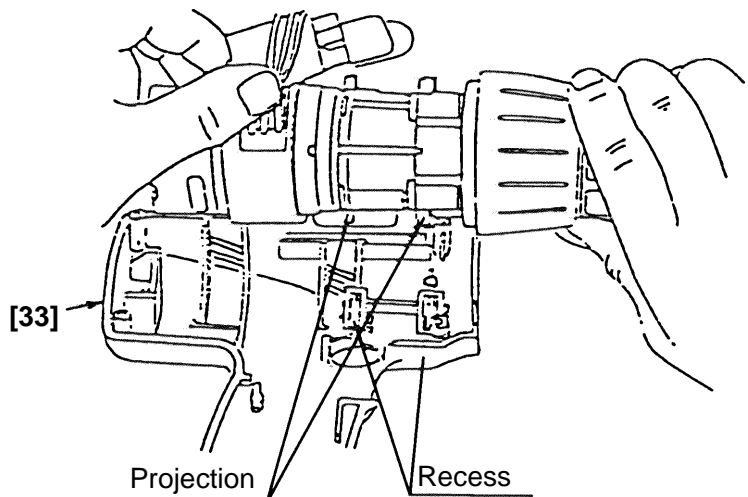

Fig. 14
(b) Install the assembly reassembled in step (3) into the Housing (A) [33]. Note that the projections on the Front Case [11] and the Motor Spacer [26] are engaged in the recess in the Housing (A) [33]. (See Fig.14.)